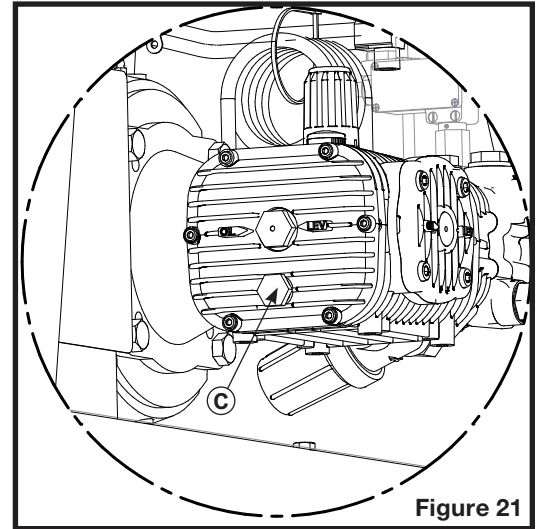

Figure 21
2. Unscrew the oil drain plug (C on figure 21).